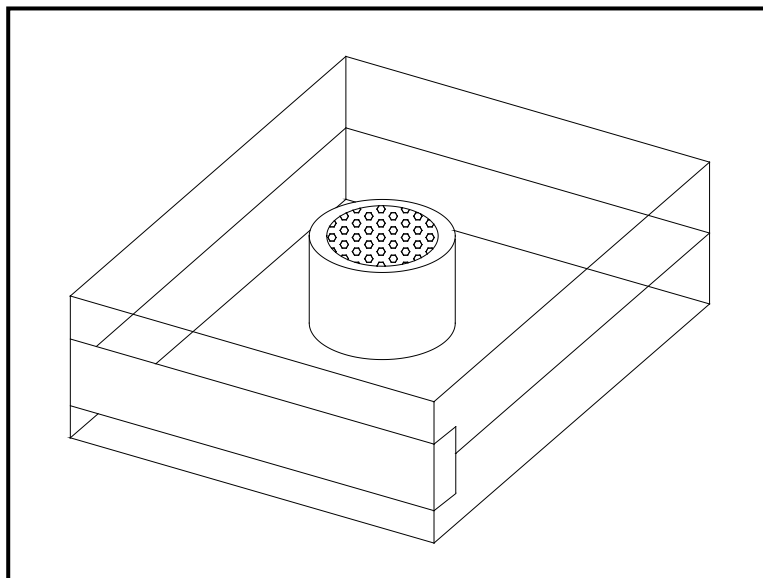

Figure 3: Packaged Oxygen Sensor
5. Open the airtight package (see figure 3) and remove the oxygen sensor from the package. To maintain the oxygen sensor's energy level, remove the red grounding tab and immediately install the sensor in the oxy.IQ